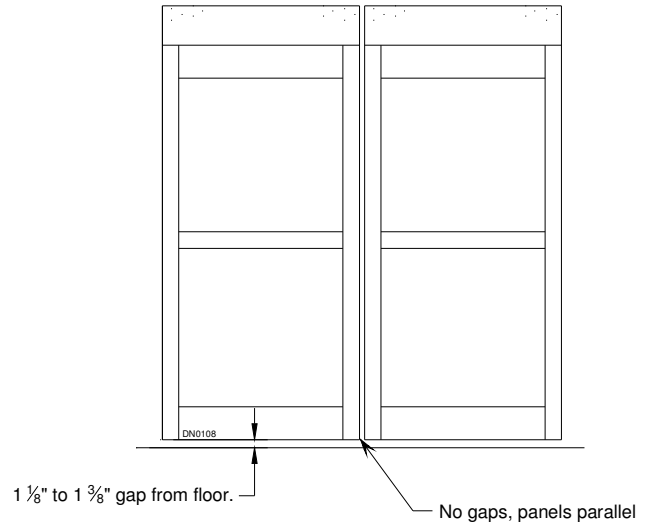

Figure 29
1. Door height from finished floor is adjustable from 1-1/8 inch to 1-3/8 inch (See Figure 29).